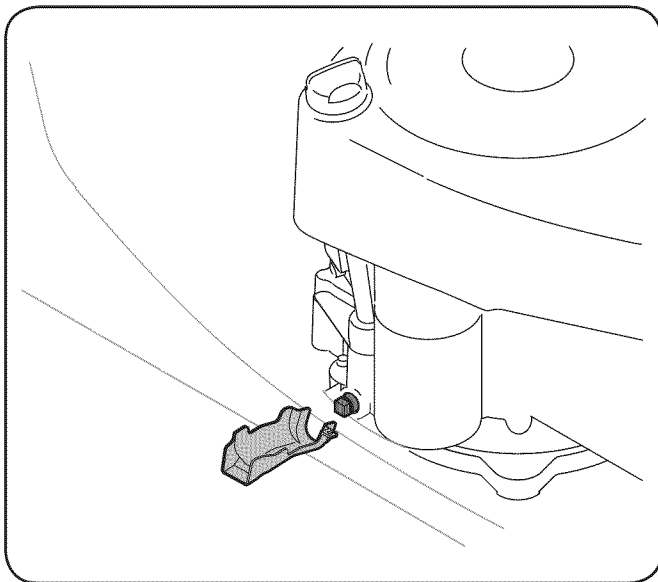

Figure 6-1
2. Snap the small end of oil drain sleeve onto the oil sump. See Figure 6-1.